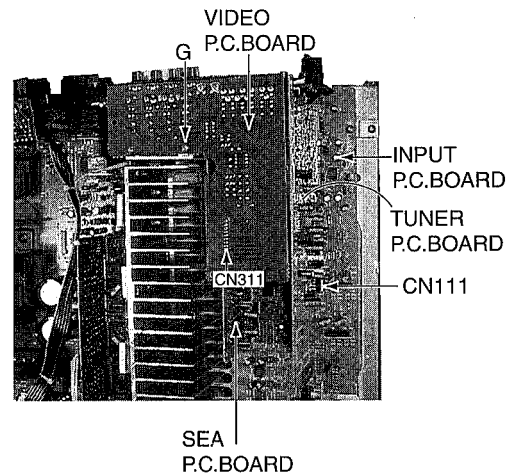

Fig.5
Disconnect the connector CN111 on the INPUT P.C.Board. (Fig.5)
### (5) Remove VIDEO P.C.Board (Fig.5)